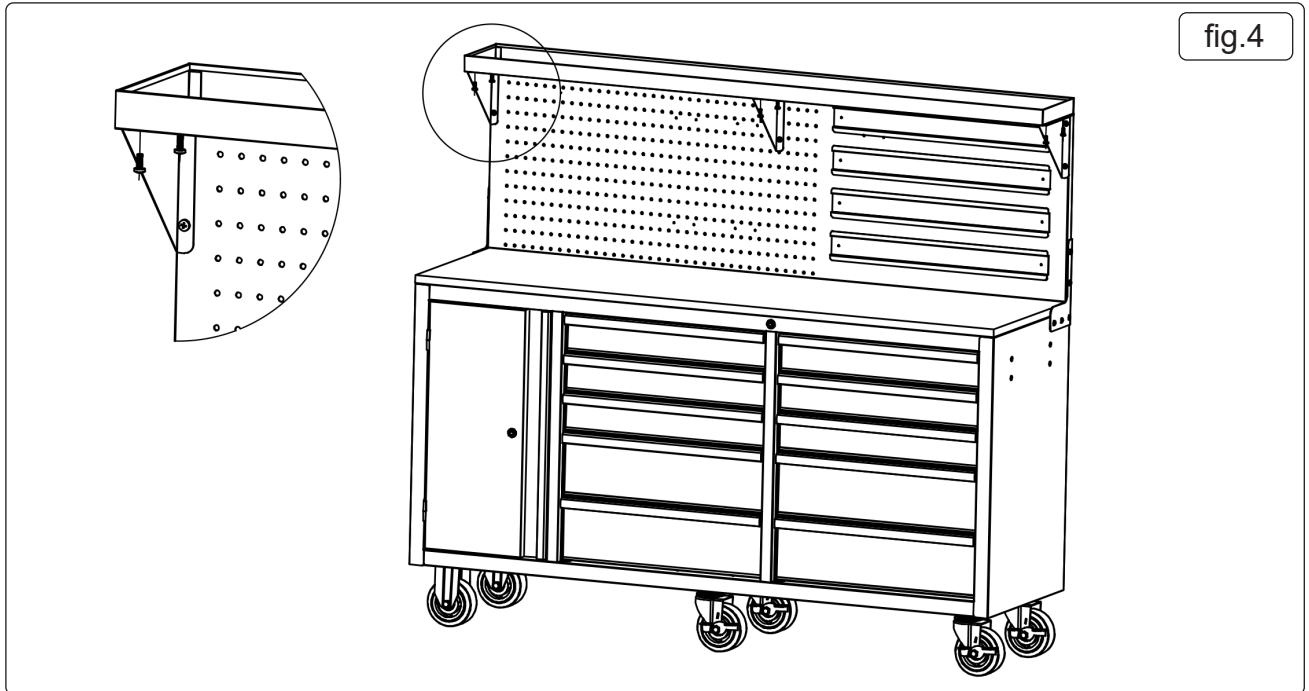

fig.4
4.4. Install the top tray (fig.4).